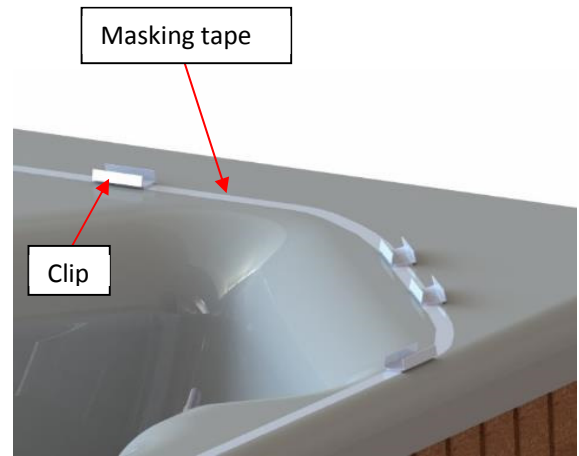

Figure 31
27. Apply the provided masking tape around the swim spa where the seal will be installed. The masking tape will ensure the seal is straight when pulled corner to corner. The ideal location for the seal is closer to the swim spa's interior edge, but on a flat surface (Figure 31). The minimum turn radius for the seal is 4 in. (10 cm).
28. Apply the provided seal clips parallel to the masking tape around the swim spa and ensure to put more in the corners and on any tight turns (around filters, etc.). Keep in mind that a limited number of clips are provided (Figure 31)